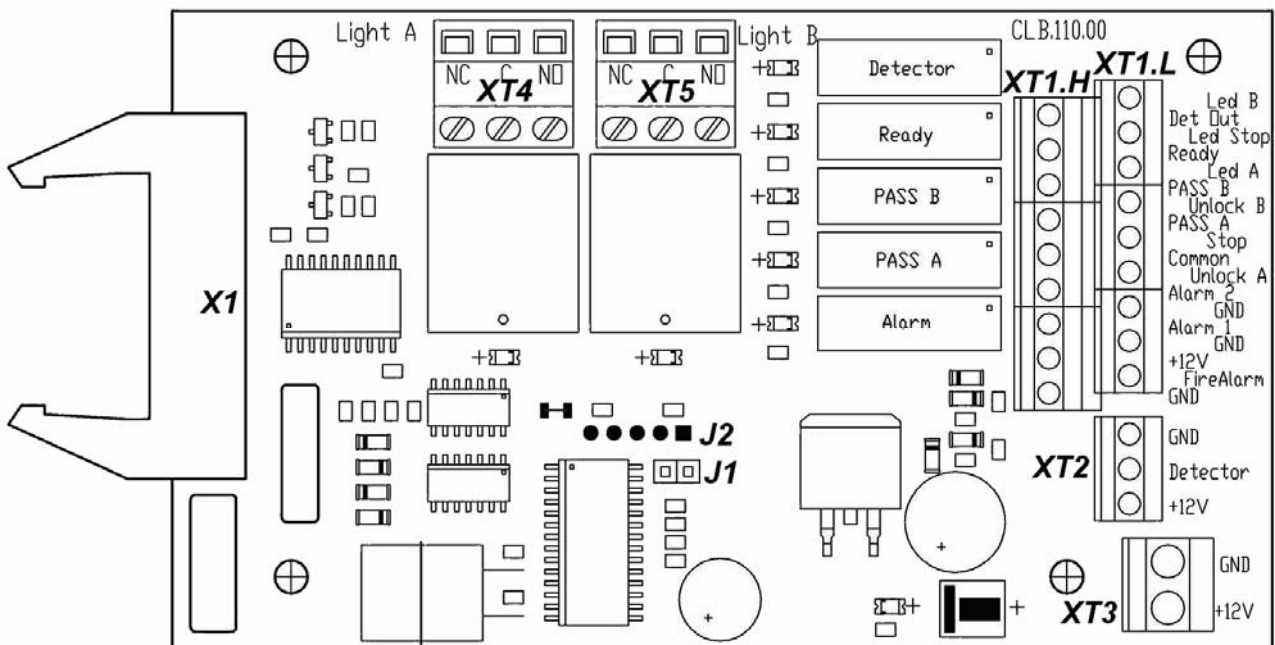
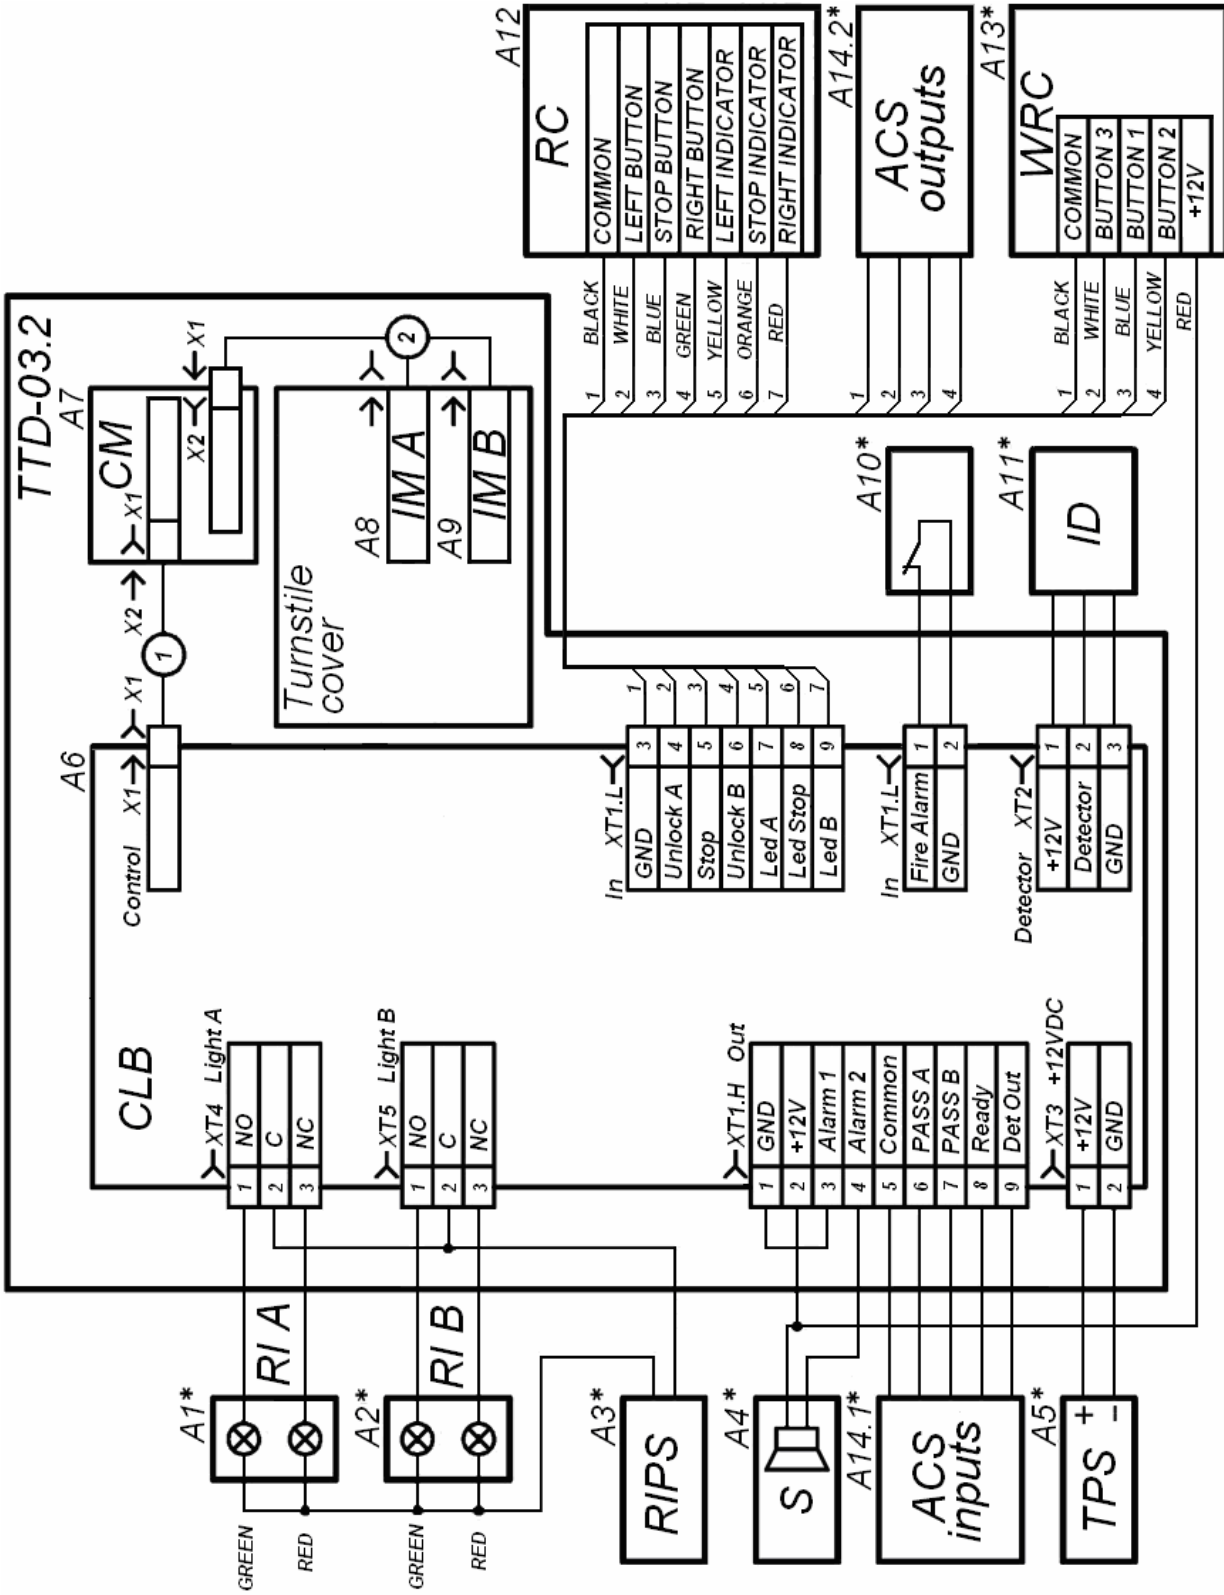

Fig. 3. Control Logic Board (CLB)
Fig. 4. Connection layout
5.2.3 The remote control panel / wireless remote control / ACS controller (12) and the turnstile power supply (11) are connected to the CLB with cables (13, 14) in accordance with the connection layout (see Fig. 4).
5.2.4 The remote control panel is designed in form of a small desktop device with a shockproof ABS plastic case and it is intended for setting and indication of the operating modes when the turnstile is operated manually. The RC-panel is connected to the CLB with a multi-thread floppy tape (13) via the “XT1.L” connector block (see Fig. 3). There are three control buttons on the RC front panel, which are intended for setting the turnstile operating modes. The LED indicators are located above the buttons. The middle button on the RC-panel (hereinafter — the **STOP** button) is intended to set the turnstile to the “Always locked” mode. The left and the right buttons are intended to unblock the turnstile for passage in the chosen direction.
If the turnstile housing installation is not standard (e.g. the operator’s terminal is placed at the backside of the turnstile housing and not at the front side), the RC-panel orientation towards the turnstile housing can be changed by exchanging places of the RC-panel wires to the contacts “Unlock A” and “Unlock B” as well as contacts “Led A” and “Led B” accordingly (see Fig. 3 and Fig. 4).
5.2.5 The CLB (see Fig. 3) contains:
Table 1. Legend to Fig. 4.
5.3.2 Connection of the stipulated in Clause 5.3.1 devices is made with cable (6) to the corresponding connector blocks “XT1.L” or “XT1.H” of the CLB in accordance with the connection layout (see Fig.3 and 4).
5.3.7 Pin assignments of those connector blocks are given on the CLB and on the label on the turnstile frame sidewall under the left-side outer panel (2) (see Fig. 3).
5.4.3 The relays “PASS A” (contacts “PASS A” and “Common”), “PASS B” (contacts “PASS B” and “Common”), “Ready” (contacts “Ready” and “Common”), “Detector” (contacts “Det Out” and “Common”) and “Alarm” (contacts “Alarm 1” and “Alarm 2”) have normally open contacts. The “Common” contact, at that, is not connected to the CLB power supply negative terminal. In the initial state (inactive, when the power is on) the relay contacts “PASS A”, “PASS B”, “Ready” and “Detector” are closed (voltage is supplied to the relay coil), the relay contacts “Alarm” are broken (voltage is not supplied to the relay coil). The CLB relay operation/release is indicated by lighting up/going down of the red test indicators, located near the corresponding relays (see Fig.3).
5.5.2 The control mode variant is set by the jumper on the J1 connector (for the J1 connector – see Fig. 3 or the label on the turnstile frame sidewall under the left-side outer panel (2)): the jumper is fixed — pulse control, the jumper is not fixed — potential control. The jumper is fixed at the factory before the delivery.